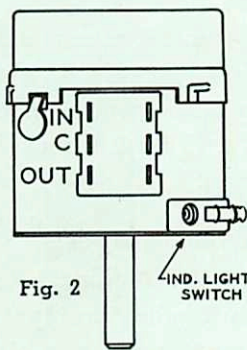

Fig. 2
- Single pole double throw for operating of signal light or relay, in separate shielded compartment at shaft end of switch. This does not increase the over-all dimensions of the unit. (See Fig. 2.) Specify position of operation of switch, if special. Standard practice is to switch between last and next to last contact in extreme counter-clockwise position. Specify if required.